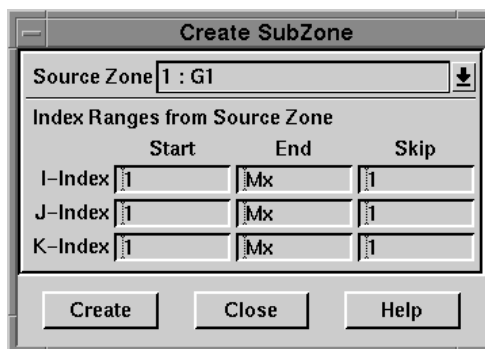

Figure 25-15. The Create SubZone dialog.
1. From the Data menu, choose Create Zone, then SubZone. The Create SubZone dialog appears, as shown in Figure 25-15.